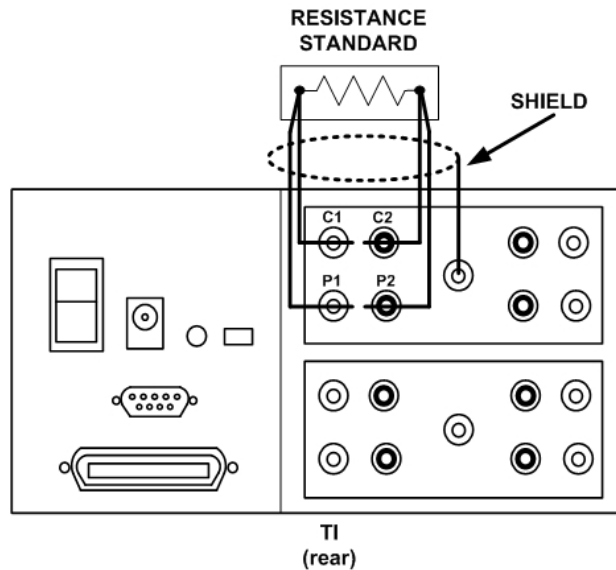

Figure 2. 100 ohm connection.
- (2) Record the average displayed value in ohms (display panel **INP:**) for the channel being calibrated.
- (3) Determine the **C0** parameter by subtracting the average displayed value recorded in (2) above.
- (4) Record the **C0:** value for use in (14) below.
(5) Remove the shorting wire from the TI and connect the 100 Ω resistance standard to the TI channel being calibrated as shown in figure 2.